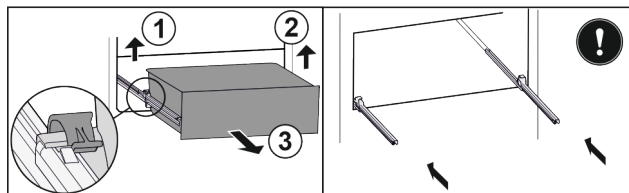

Fig. 32*
- ▶ Lift the left clamp and simultaneously pull the drawer on the left forwards Fig. 32 (1).*
- ▶ Lift the right clamp and simultaneously pull the drawer on the right forwards Fig. 32 (2).*
- ▶ Take out the drawer to the front Fig. 32 (3).*